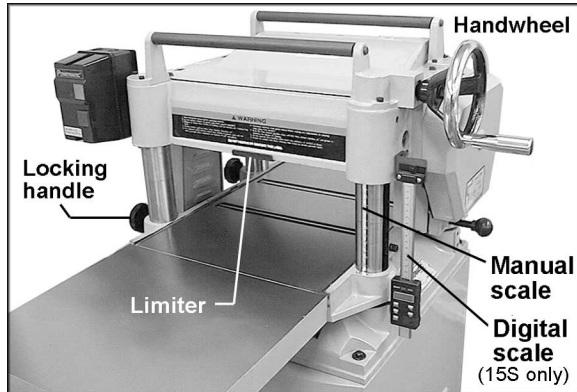
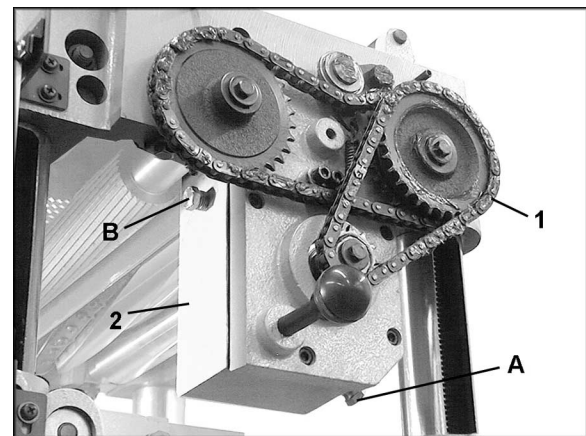

Figure 33
Figure 34
The cutting depth scale is a combination inch/metric scale (Figure 33), with a cutting range from 0 to 6" (152.4mm). A manual scale is mounted directly to the front column. The model 15S planer also features a digital scale for easier, more precise depth readings.
The distance of upward or downward movement is controlled by the handwheel (Figure 33). Before moving the table up or down, loosen the locking handles (Figure 33). After obtaining proper table position, tighten the locking handles.
Maximum depth of cut is 3/16". A limiter (Figure 33) on the front of the head casting limits the depth of cut on full width planing under 1/8".
1. Remove the drain plug (A, Figure 34) with a 14mm wrench, and remove filler cap (B-Figure 33). Drain dirty oil thoroughly.
2. Insert and tighten the drain plug (A, Figure 34).
3. Fill with clean lubricant through hole (B, Figure 34).
4. Install and tighten filler cap (B, Figure 34).